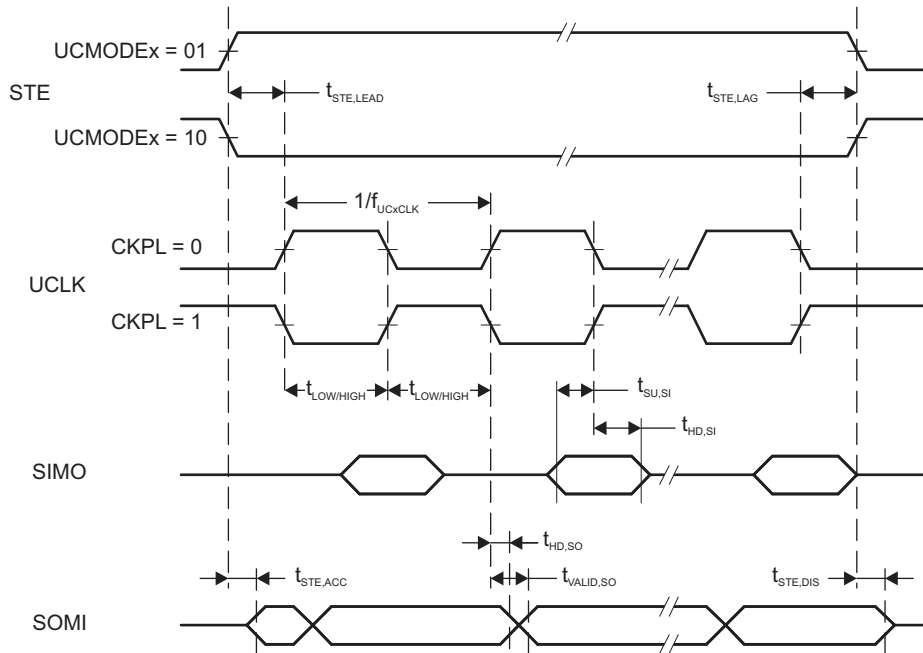
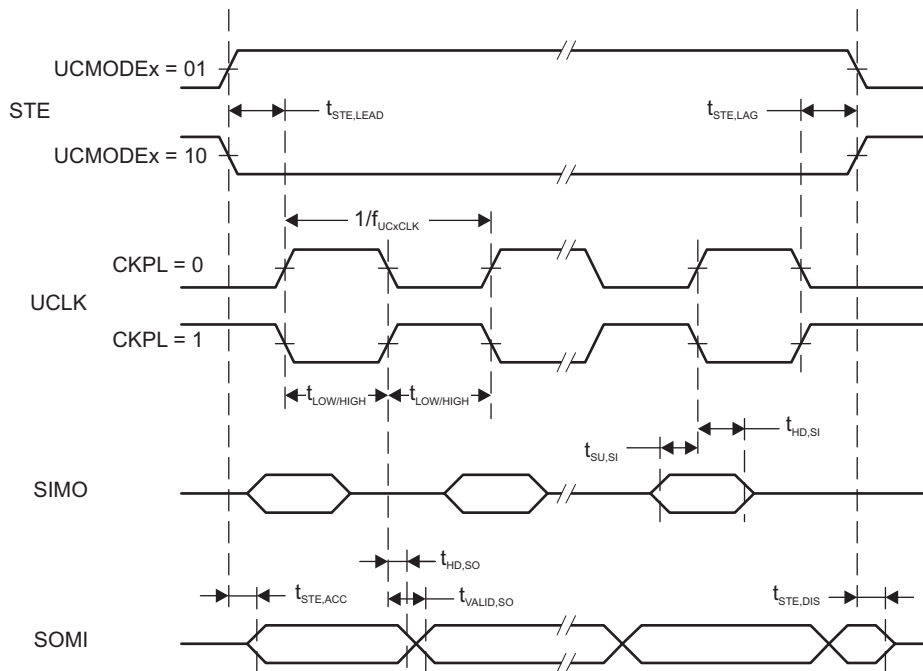

Figure 5-15. SPI Slave Mode, CKPH = 0
Figure 5-16. SPI Slave Mode, CKPH = 1
(2) Specifies the time to drive the next valid data to the SOMI output after the output changing UCLK clock edge. See the timing diagrams in Figure 5-15 and Figure 5-16.
(3) Specifies how long data on the SOMI output is valid after the output changing UCLK clock edge. Refer to the timing diagrams in Figure 5-15 and Figure 5-16.